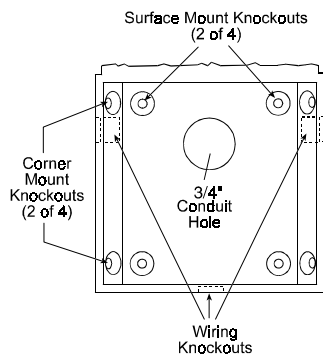

Figure 3. The GL Base
- Mount the base in the location selected for optimum coverage. Use the four knockouts at the back of the base for surface mount and the four knockouts on the angled sides for corner mount (see Figure 3). The unit must be fastened firmly to avoid possible vibrations.
- There are three wiring knockouts (two on the sides, one on the bottom - Fig. 3), and an open hole which accommodates a 3/4" conduit fitting.